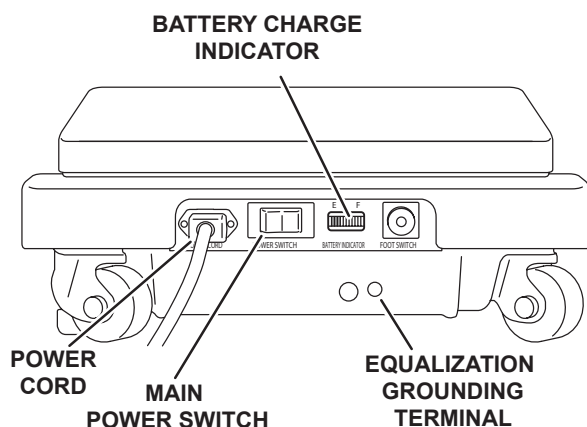

Figure 6. Electrical Panel
- The main power On/Off switch (Main Power Switch) is located on the panel at the front of the table base (Figure 6).